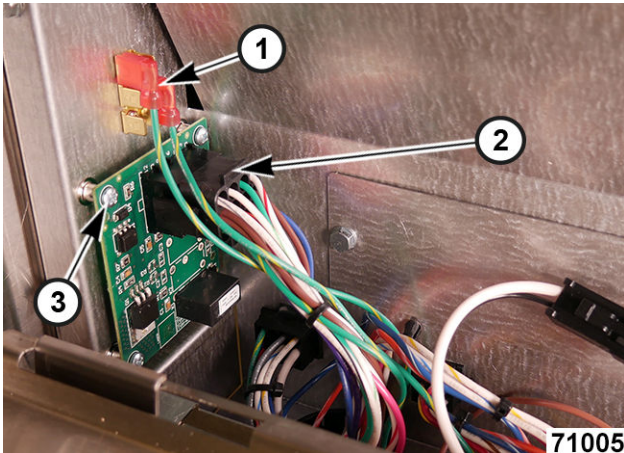

Fig. 12
2. Disconnect ground wires (1, Fig. 12).
3. Disconnect interface board wire harness plug (2, Fig. 12).
4. Remove interface board mounting screws (3, Fig. 12).